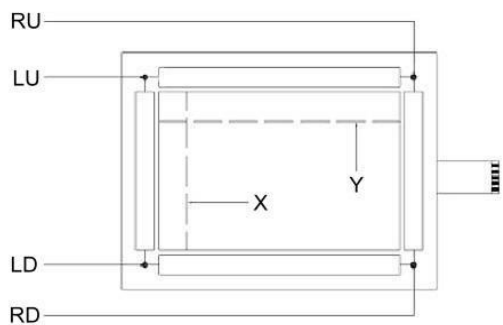
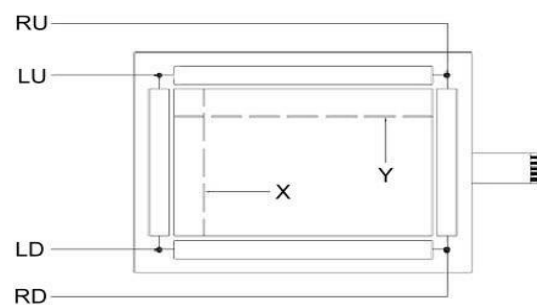

Figure 1
Figure 2
(1) Supply voltage	DC 7V max.
(2) Circuit Resistance	(1) X: 200~900 Ω , Y: 200~900 Ω (See Figure 1) 4 : 3 (2) X: 350~1300 Ω , Y: 120~450 Ω (See Figure 2) 16 : 9 (3) can produce as per customer's special circuit resistance request
(3) Linearity	$X \leq 1.5\%$, $Y \leq 1.5\%$
(4) Response	$\leq 10\text{ms}$
(5) Insulation Resistance	10M Ω min / 25V(DC)
(6) Endurance	No acting damage at DC50V / 60sec.